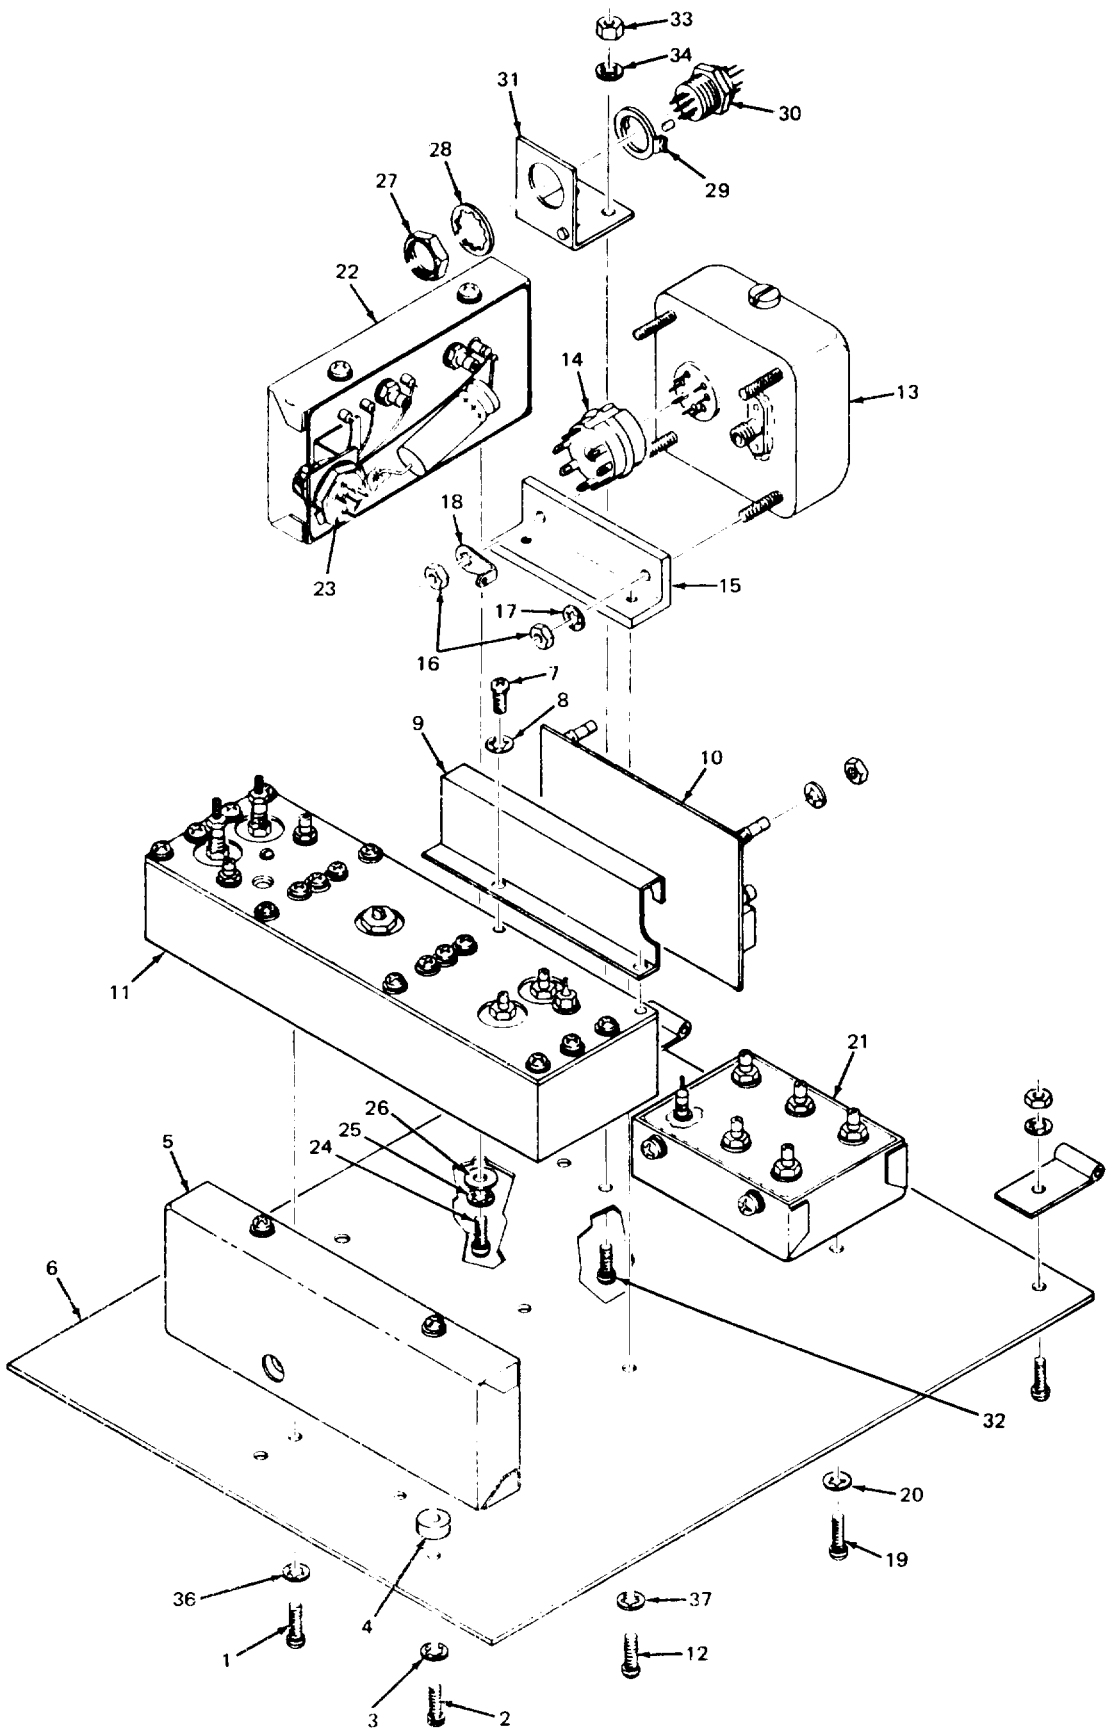

Figure 5-48. Upper floor disassembly/reassembly diagram.
- (1) Attach two 1/4" Phillips screws (24), two lockwashers (25), and two flat washers (26) which secure Clock Divider mechanical assembly (22) to Upper Floor (6) (figure 5-48).
- (2) Install tagged coax cables. Install mating connector to connector (23) (figure 5-48).
- (3) Attach two 1/4" Phillips screws (19) and two lockwashers (20) which secure Master Oscillator Output Distribution Amplifier (21) to Upper Floor (6) (figure 5-48).
- (4) Install tagged coax cables and solder wire to feed-through at Master Oscillator Output Distribution Amplifier (21) (figure 5-48).
- (5) install TCXO Master Oscillator (13) to mounting bracket (15) (figure 5-48).
- (6) Attach two hex nuts (16), one lockwasher (17), and one ground lug (18) which secure Master Oscillator mounting bracket (15) to TCXO Master Oscillator (13) (figure 5-48).
- (7) Attach two 5/16" Phillips screws which secure Master oscillator mounting bracket (15) to the Upper Floor (6) (figure 5-48).
- (8) Install tagged coax cable to TCXO Master Oscillator (13). Plug in tube socket (14) to TCXO Master Oscillator (13) (figure 5-48).
- (9) Install 1200-2200 MHz Oscillator mechanical assembly (11) to Upper Floor (6) (figure 5-48).
- (10) Attach four Phillips screws (1) and four lockwashers (36), which secure 1200-2200 MHz Oscillator mechanical assembly (11) to Upper Floor (6) (figure 5-48).
- (11) Attach tagged coax cables to 1200-2200 MHz Oscillator mechanical assembly (11) (figure 5-48).
- (12) Install AGC mounting bracket (9) with AGC Circuit Board (10) to 1200-2200 MHz oscillator mechanical assembly (11) (figure 5-48).
- (13) Attach two 5/16" Phillips screws (7) and two lockwashers (8) to AGC mounting bracket (9) (figure 5-48).
- (14) Attach all of the tagged coax cables necessary to the AGC Circuit Board (10) (figure 5-48).
- (15) Solder two tagged wires to feed-through on 1200-2200 MHz Oscillator assembly (11); one wire from AGC Circuit Board (10), the other wire from bracket mounted connector (30) (figure 5-48).
- (16) Install Heterodyne Amplifier ± 2 Prescaler mechanical assembly (5) to Upper Floor (6) (figure 5-48).
- (17) Attach two Phillips screws (2), two lockwashers (3), two spacers (4), which secure Heterodyne Amplifier ± 2 Prescaler mechanical assembly (5) to Upper Floor (6) (figure 5-48).
- (18) Install tagged coax cables and solder wires to feed-through capacitors at Heterodyne Amplifier ± 2 Prescaler mechanical assembly (5) (figure 5-48).